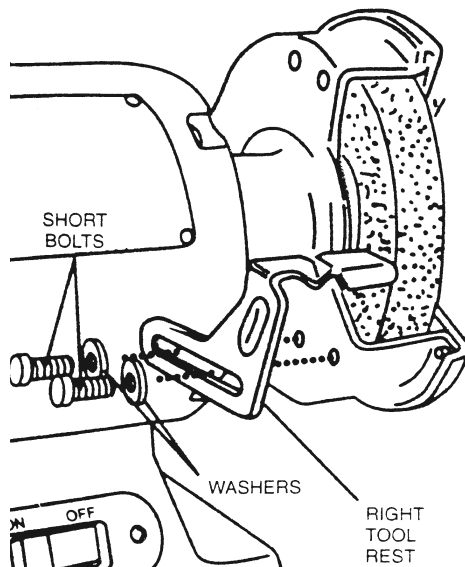

FIGURE 1
- b. Install adjustable rests (22 and 35) to the wheel guards (7 and 27) as shown in Figure 1. Use bolts and washers to secure them in place as shown in Figure 1.
Note: There is a left and a right tool rest. Refer to Figure 1 to be certain that you install them correctly.